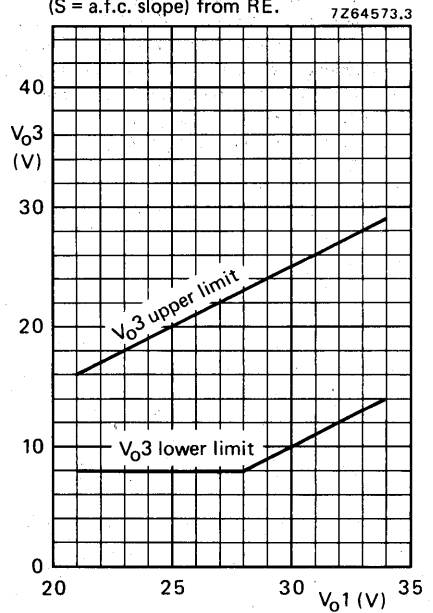

Fig. 7 Range of values for V_{o3} .
12. V_{O3} depends on the value of V_{O1} (see Fig. 7); adjustable with RA3.